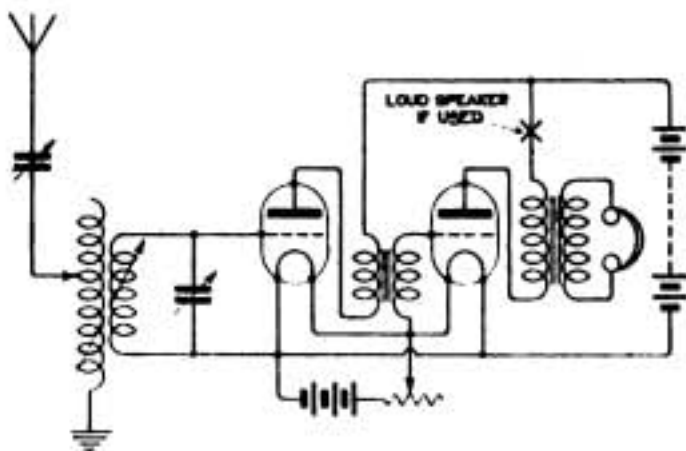

Fig. 7.
(1) If you want to use a loud speaker on near-by stations, we should recommend L.F. amplification. If, however, you want the maximum possible range we should prefer H.F. For a suitable circuit with L.F. amplification, see diagram (Fig. 7). (2) These coils should be coupled together, but there is no definite relationship between their sizes. The size of Y is determined by the wavelength required, X is then made of size large enough to give sufficient reaction with Y. (3) Yes, but not very efficient. (4) $C = 0.0005$ mfd., and $C.1 = 0.0002$ mfd.